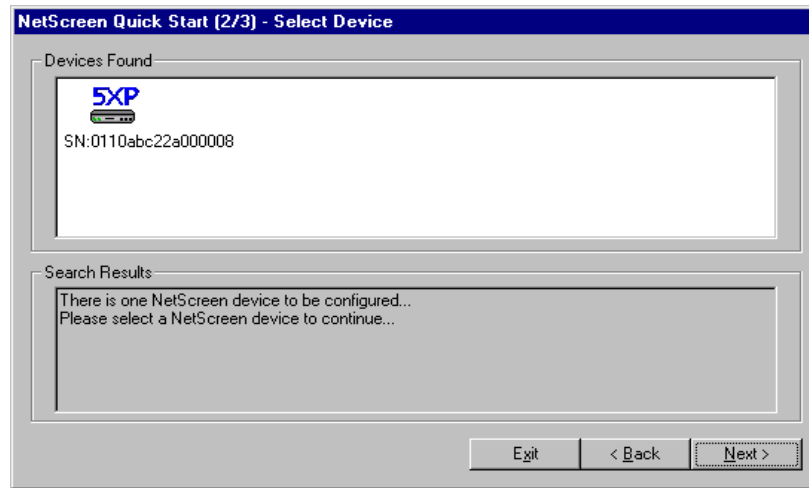

Figure 3-3 NetScreen Quick Start-Select Device
5. When the NetScreen Quick Start Select Device dialog box displays, select the NetScreen-5XP you want to configure, as shown in Figure 3-3, then click the **Next** button. In the event more than one NetScreen device is found, match the serial number of the new device to the one found by the Quick Start program, select it, and click **Next**.